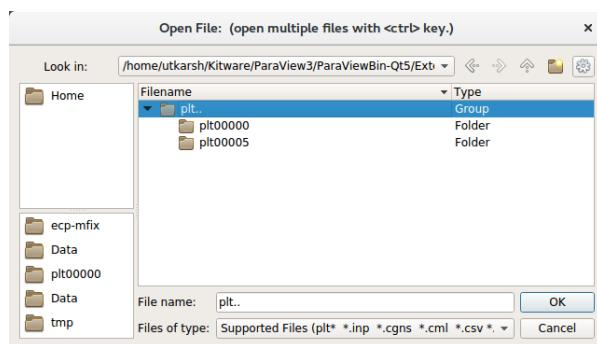

Fig. 15.2: : File dialog in ParaView showing a group of plotfile directories selected
1. Run ParaView v5.5, and select then “File” → “Open”. You will see a combined “plt..” group. Click on “+” to expand the group, if you want inspect the files in the group. You can select an individual plotfile directory or select a group of directories to read them a time series, as shown in Fig. 15.2, and click OK.